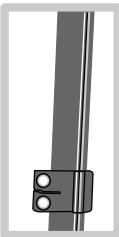

Figure 6
3. Position the rail collars on the ends of the rails. Do not tighten them yet. If your bike has rail collars, now is the time to ensure they are mounted on the rails on the rearmost legs (Figure 6).